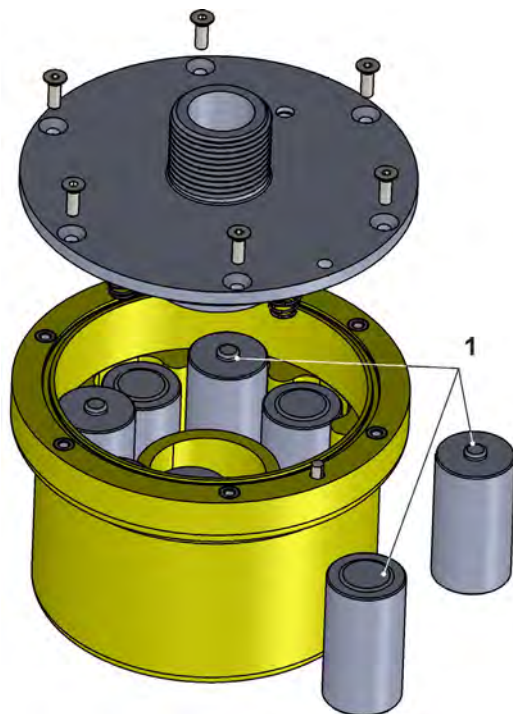

Fig. 36-1 Battery Replacement
3. Remove the batteries (Fig. 36-1 Pos. 1).